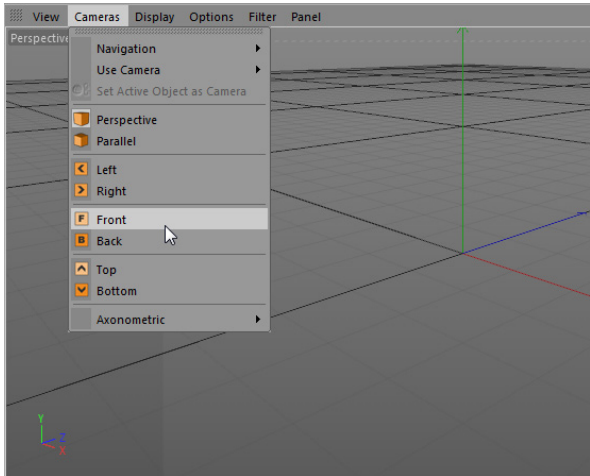
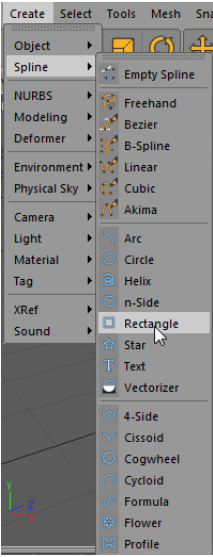

Figure 2-2 Choosing the **Front** option from the Menu in editor view
Figure 2-5 Choosing **Rectangle** from the **Create** menu
2. Press the middle mouse button in the Perspective viewport; all viewports are displayed. Next, hover the cursor over the Front viewport and then press MMB to maximize it. Alternatively, choose **Cameras > Front** from the Menu in editor view, as shown in Figure 2-2; the Front viewport is maximized.
- 1. Press F1; the Perspective viewport is maximized. Alternatively, choose **Cameras > Perspective** from the Menu in editor view, refer to Figure 2-2. Choose **Create > Spline** from the main menu; a cascading menu is displayed. Next, choose **Rectangle** from it, as shown in Figure 2-5; a rectangle is created in the Perspective viewport. Also, *Rectangle* is added to the Object Manager.